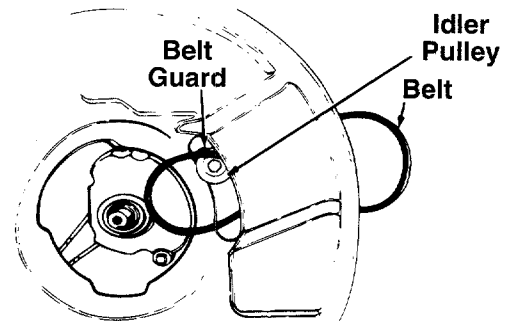

FIGURE 14.
8. Remove the belt from between the idler pulley and the belt guard on the idler pulley bracket. See figure 14.
- A. Push the idler pulley up out of the way as shown in figure 14.